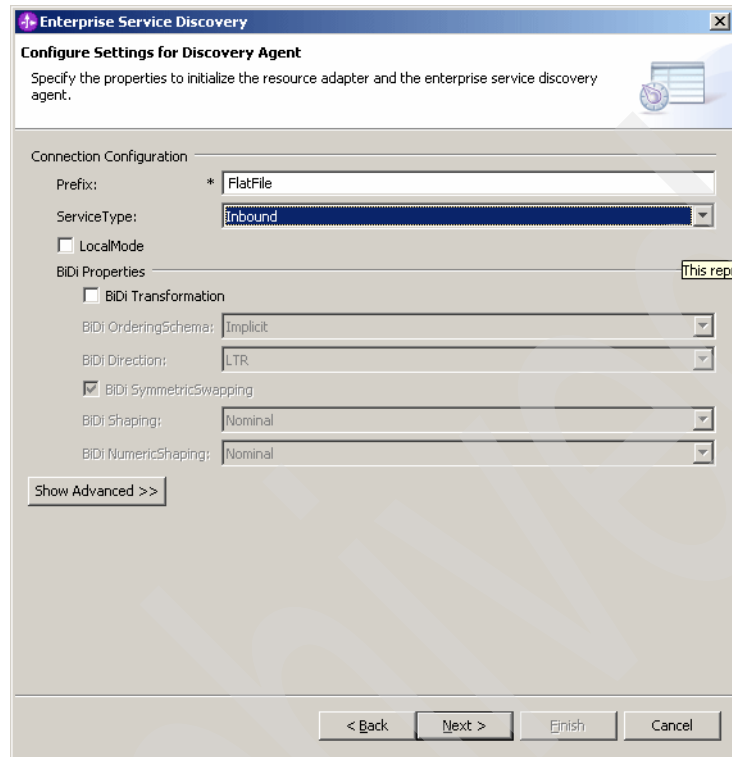

Figure 3-3 Select inbound service
3. Select service type **Inbound**. Click **Next** (Figure 3-3).